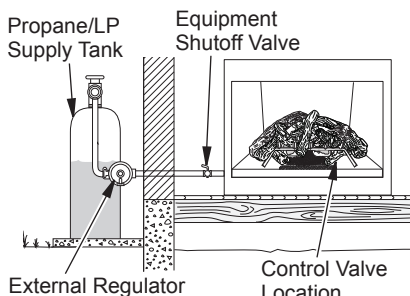

Figure 16 - Checking Gas Joints for Propane/LP Gas
3. Check all joints from gas meter to equipment shutoff valve for natural gas or propane/LP supply to equipment shutoff valve for propane/LP (see Figure 16 or 17). Apply a noncorrosive leak detection fluid to all joints. Bubbles forming show a leak.
4. Check all joints from equipment shutoff valve to control valve (see Figure 16 or 17). Apply a noncorrosive leak detection fluid to all joints. Bubbles forming show a leak.